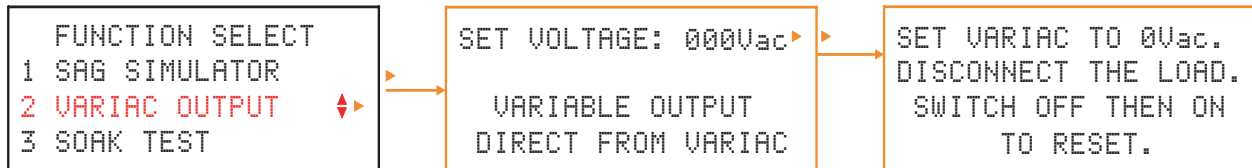

Fig 3
3. A variable interrupt timer that is used to set the duration of the voltage sag and the point in the cycle at which it begins. Both variables are set using the programming keys and are indicated on the LCD display. Refer to the menu flow chart and programming key function table in Fig 3 p7 for Sag Simulation, page 8 for Variac Output and Fig 4 p11 for Soak Test.
Follow the steps outlined below to set up and operate the Sag Simulator. Refer to Fig 3 on page 7 for information on menu layout and programming key functions.